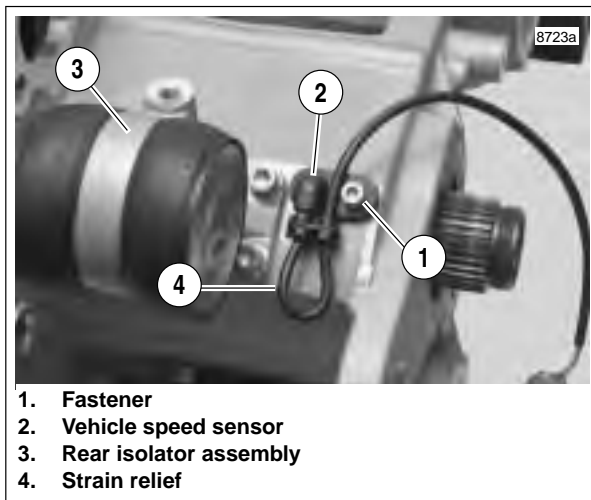

Figure 7-59. Speedometer Sensor
1. See Figure 7-59. Remove fastener (1) to detach vehicle speed sensor (2) from crankcase.
1. See Figure 7-59. Lube o-ring with engine oil and install fastener (1) to attach vehicle speed sensor (2) to crankcase and tighten to 90-110 in-lbs (10-.12.4).